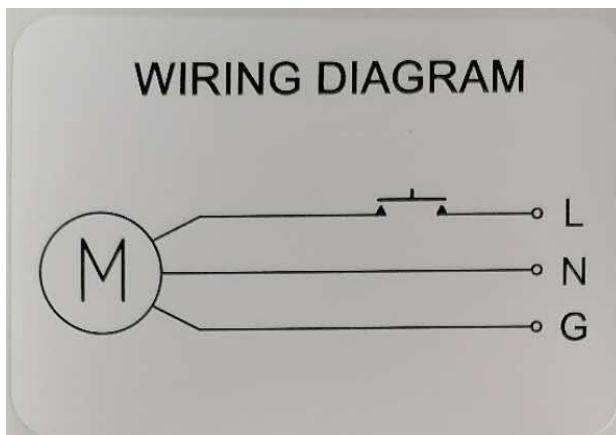

Fig. 19
1. Have a certified electrician make the electrical connection to the power unit. Use a separate circuit for each power unit, as shown below in **(Figs. 19)**.